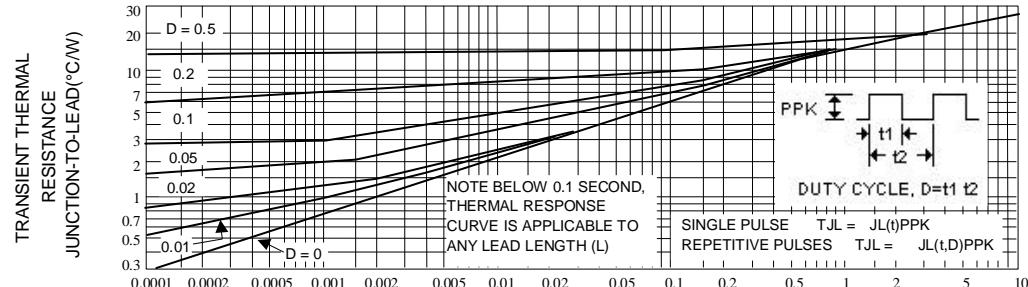
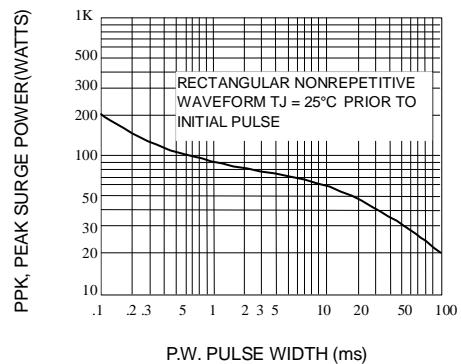

Fig. 2-TYPICAL THERMAL RESPONSE L,
Fig. 3-MAXIMUM SURGE POWER
4. SURGE CURRENT ( $I_R$ ) NON-REPETITIVE - The rating listed in the electrical characteristics table is maximum peak, non-repetitive, reverse surge current of 1/2 square wave or equivalent sine wave pulse of 1/120 second duration superimposed on the test current,  $I_{ZT}$ , per JEDEC standards, however, actual device capability is as described in Figure 3.
$\Delta T_{JL}$  is the increase in junction temperature above the lead temperature and may be found from Figure 2 for a train of power pulses or from Figure 10 for dc power.
Data of Figure 2 should not be used to compute surge capability. Surge limitations are given in Figure 3. They are lower than would be expected by considering only junction temperature, as current crowding effects cause temperatures to be extremely high in small spots resulting in device degradation should the limits of Figure 3 be exceeded.